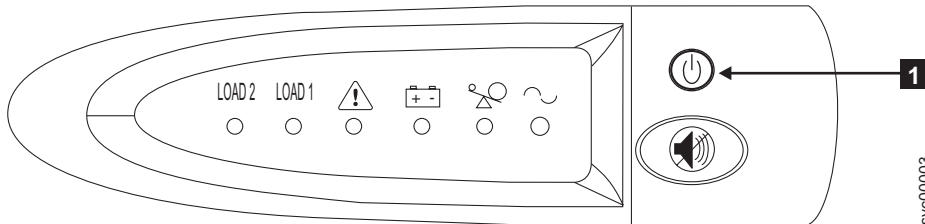

Figure 308. The 2145 UPS-1U front-panel assembly
1. At the front of the 2145 UPS-1U, press and hold the on/off button ( **1** in Figure 308) until the power light is extinguished (approximately five seconds). On some versions of the 2145 UPS-1U, you need a pointed device, such as a screwdriver, to press the on/off button. The 2145 UPS-1U enters standby mode.